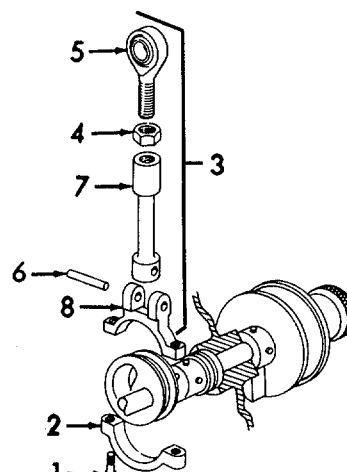

Figure 6-136. Connecting Rod, Removal.
- (13) Refer to Figure 6-136. Remove two screws (1) and connecting rod bottom section (2).
- (14) Remove connecting rod assembly (3), do not disassemble.